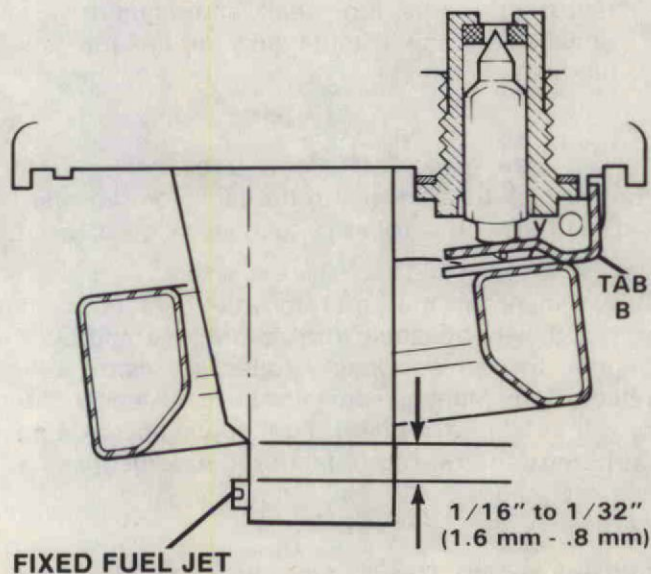

Figure 19. Adjusting Float Drop.
- A. Hold carburetor up-right. Distance between bottom of float and fixed fuel jet to be $1/16'' - 1/32''$ (1.6 mm - .8 mm). Figure 19.